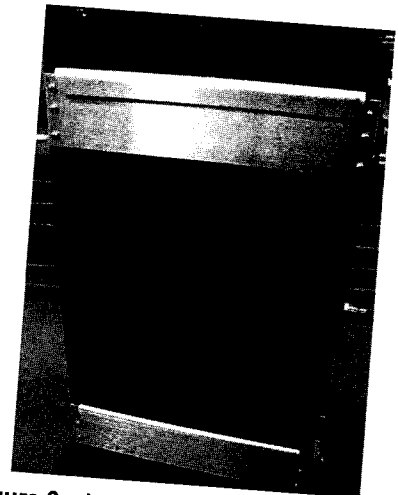

Figure 6 – Installed Boiler Brackets
4. The boiler is now ready to install on the wall brackets. See Figure 6.